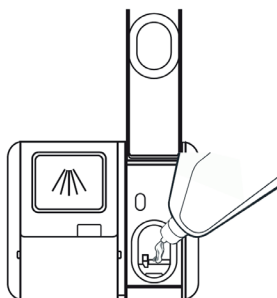

Fig. 4
3. Slowly pour the rinse aid into the dispenser (Fig.. 4). The capacity of the empty dispenser is about 140 ml.